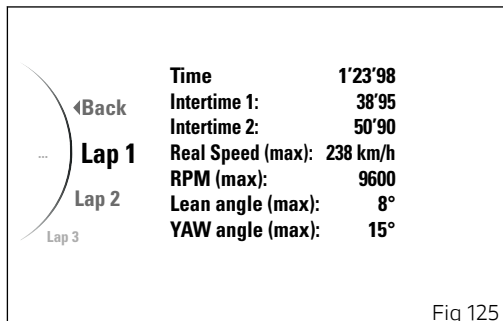

Fig 125
- Use buttons (1) and (2) to select item "Lap" and press the ENTER button (3).
- Select the "Lap Data" option and press the ENTER button (3).
When accessing this function, the display shows "Best Laps", "Best Intertime 1", "Best Intertime 2" options and the recorded sessions (max. 6). To view the LAPs memorised in one session, select the desired session and press the ENTER button (3). The display will show all the LAPs recorded in the selected session (Fig 125). Use buttons (1) and (2) to scroll through the memorised LAPs.